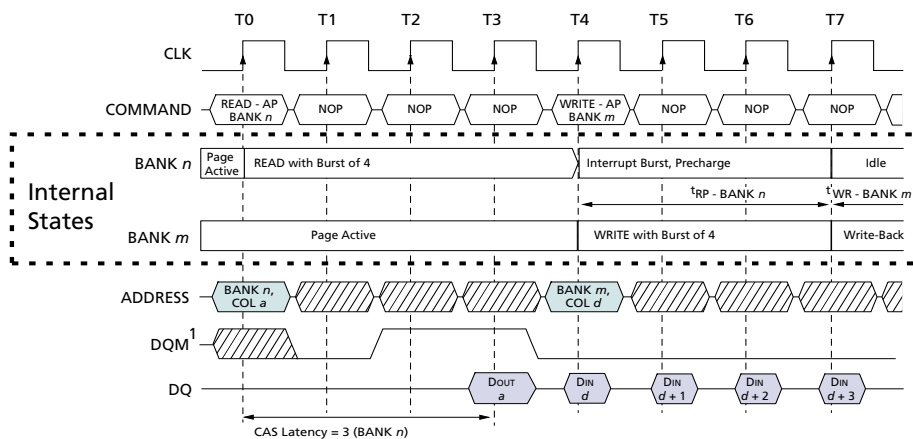

Figure 25
2. Interrupted by a WRITE (with or without auto precharge): A WRITE to bank *m* will interrupt a READ on bank *n* when registered. DQM should be used two clocks prior to the WRITE command to prevent bus contention. The PRECHARGE to bank *n* will begin when the WRITE to bank *m* is registered (Figure 25).